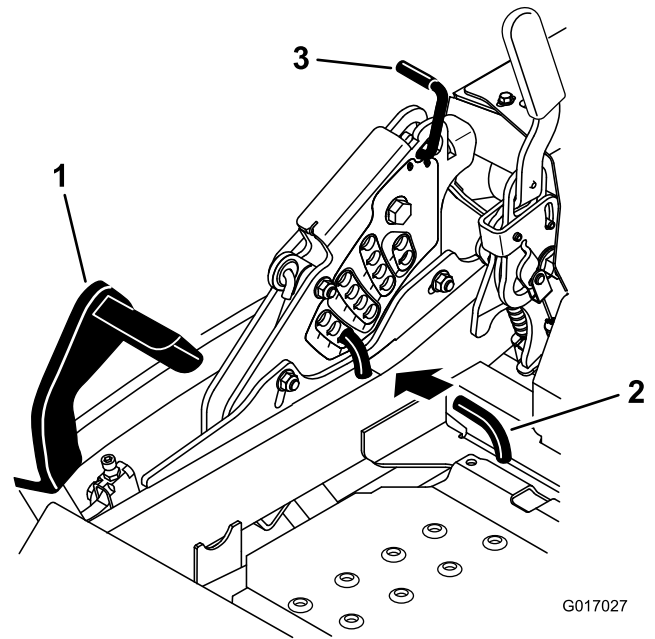

Figure 82
5. Push the deck lift pedal all the way forward and the deck will latch at the 14 cm (5-1/2 inches) transport position (Figure 82).